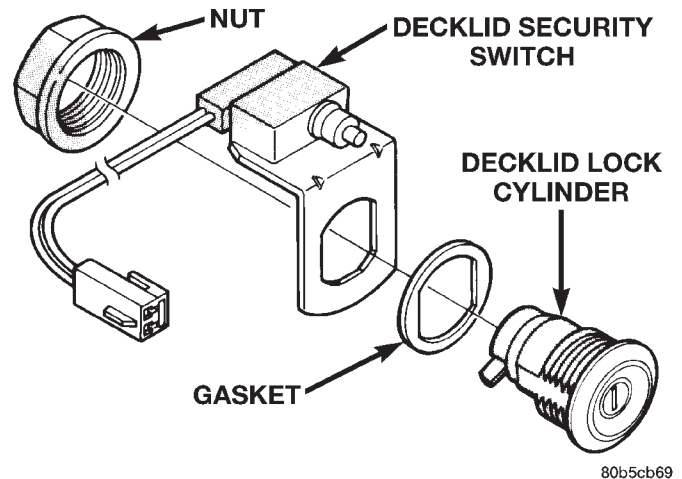

Fig. 4 Deck Lid Security Switch
(1) Refer to Group 23, Body for deck lid lock cylinder removal.
(2) Disconnect connector (Fig. 4) and remove deck lid lock cylinder from bracket.